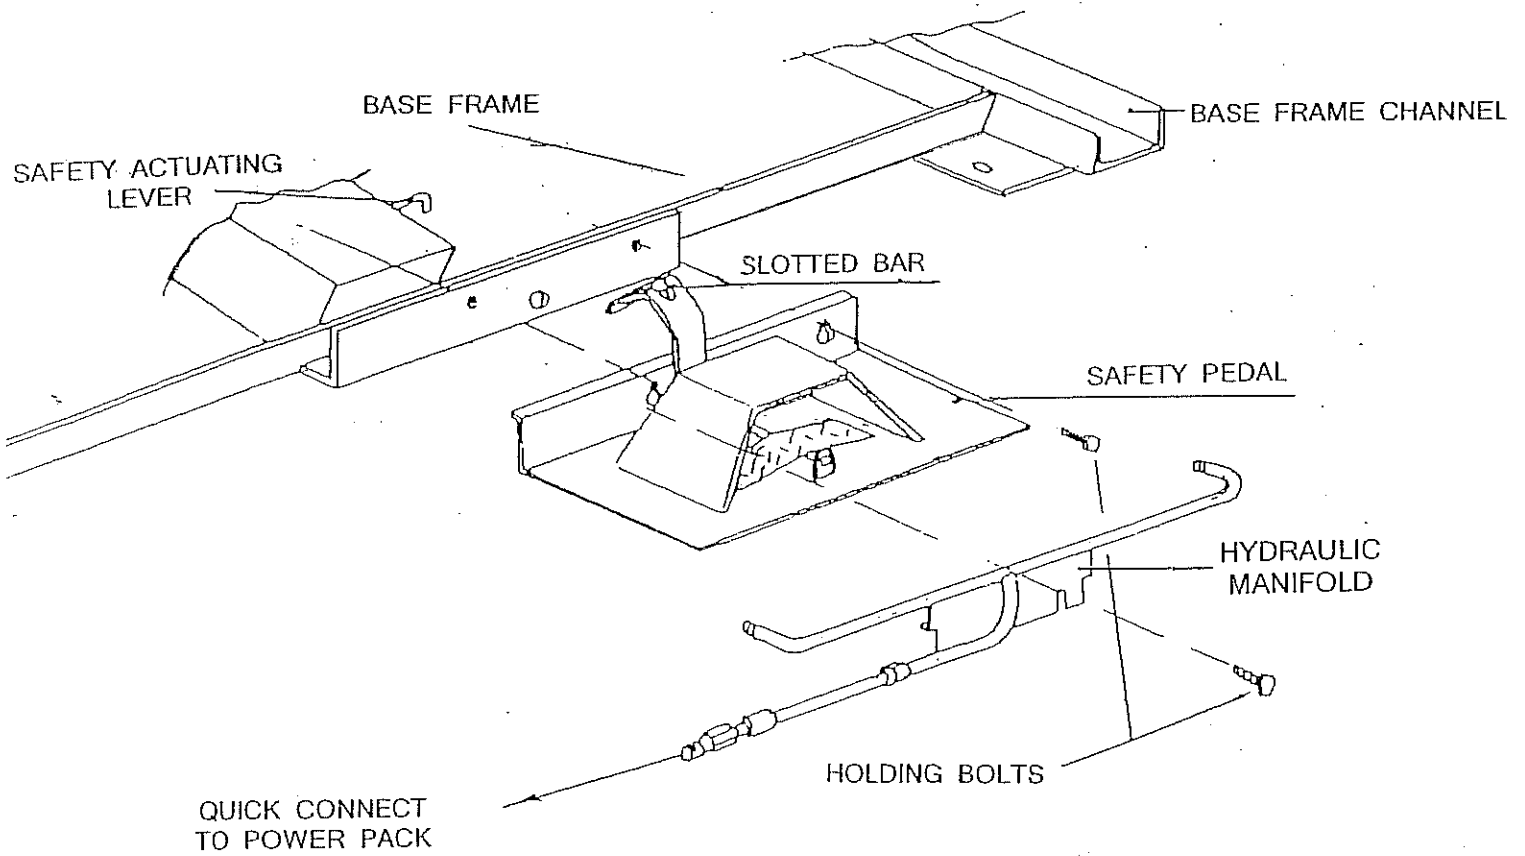

FIG 2
8. Loosen the screwing screws (see Fig 2.) Position the safety foot pedal between the hydraulic pipe assembly and the base frame.